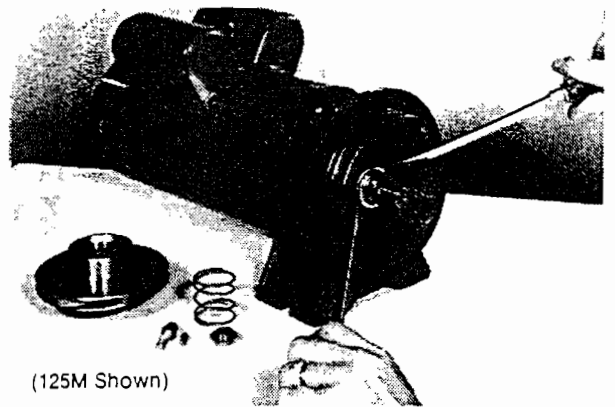

FIG. 3
- (c) Using two screwdrivers, pry out rotating assembly of shaft seal. (Fig. 3)